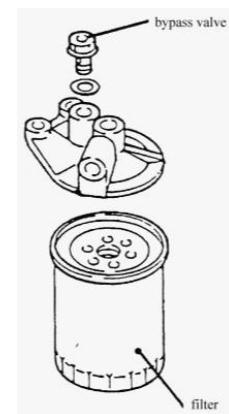

Fig.1.7
1.6.2 Replacement of fuel filter (Fig.1.7)